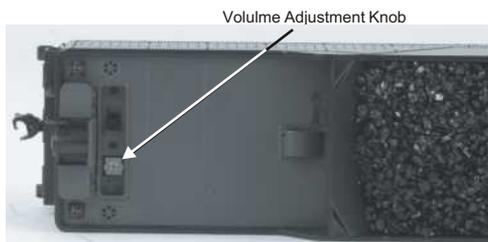

Figure 11: Manually Adjusting the Volume
1. Remove the body from the chassis by removing the body mount screws as shown in figure 11 on page 15.